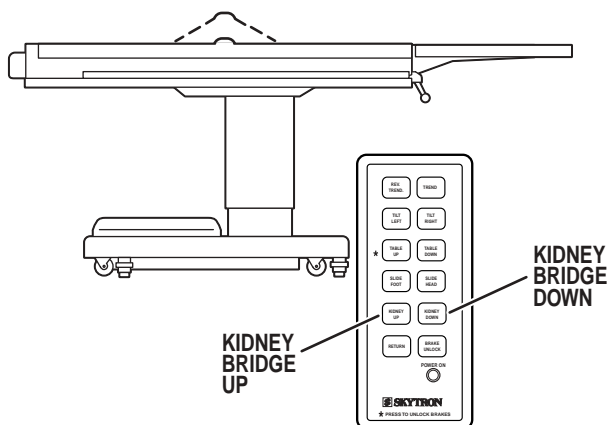

Figure 2-10. Kidney Bridge-Up Function
g. Kidney Bridge (Model 3100). To raise the kidney bridge, push the KIDNEY-UP button. See figure 2-10.